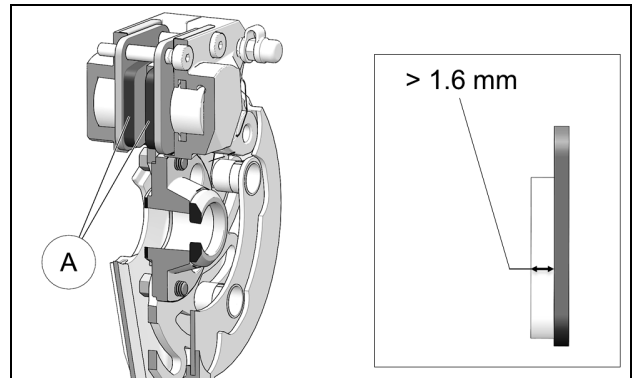

Figure 57
Inspect brake pads (A) for wear. If pad thickness is under 1.6 mm (1/16 in.), replace the parts. See Figure 57.